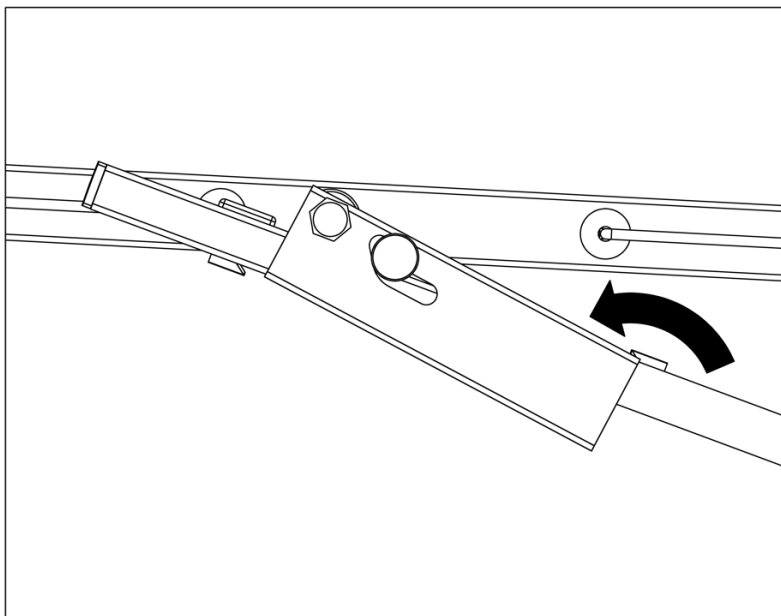

Fig 12. Catch jumps over protrusion.
- Keeping an eye on the catches, lift until each catch has jumped over the top protrusion on the stay. (Fig.12)